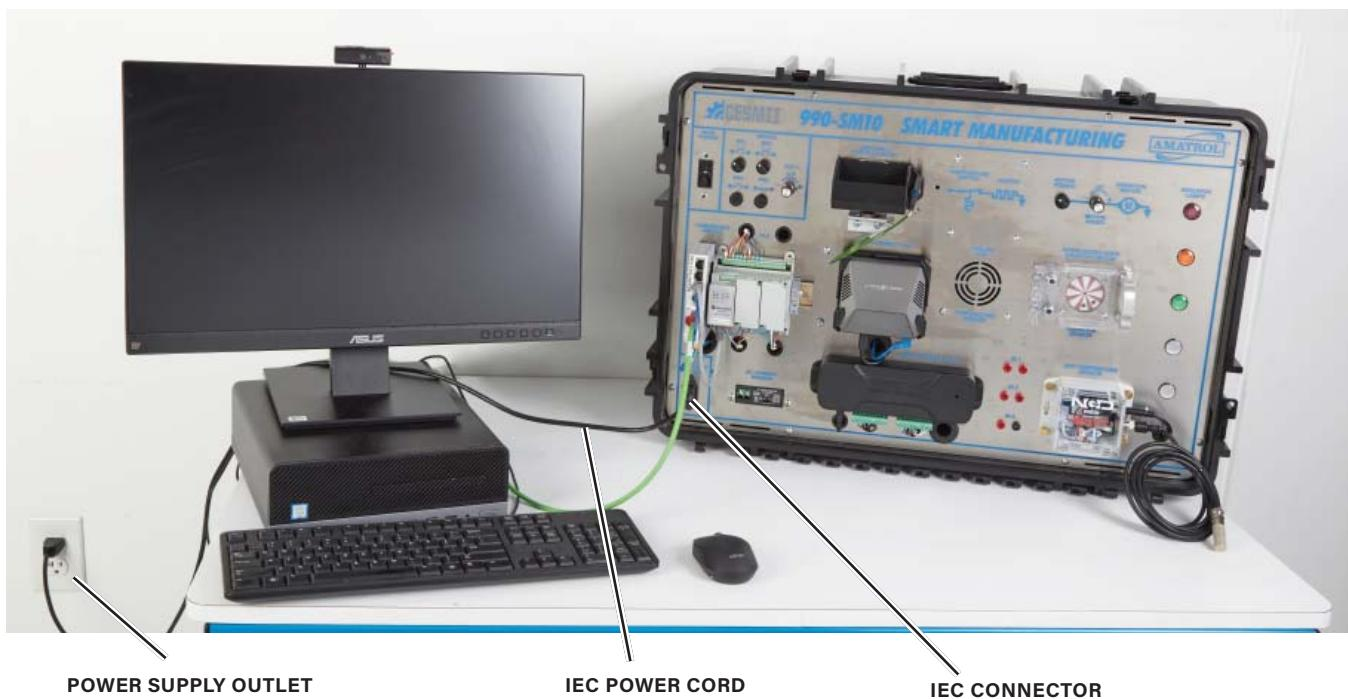

Figure 4-2. IEC Power Cord Plugged into AC In Port and Power Supply Outlet
- Connect the IEC power cord to the IEC connector on the workstation and an AC wall outlet, as shown in figure 4-2.